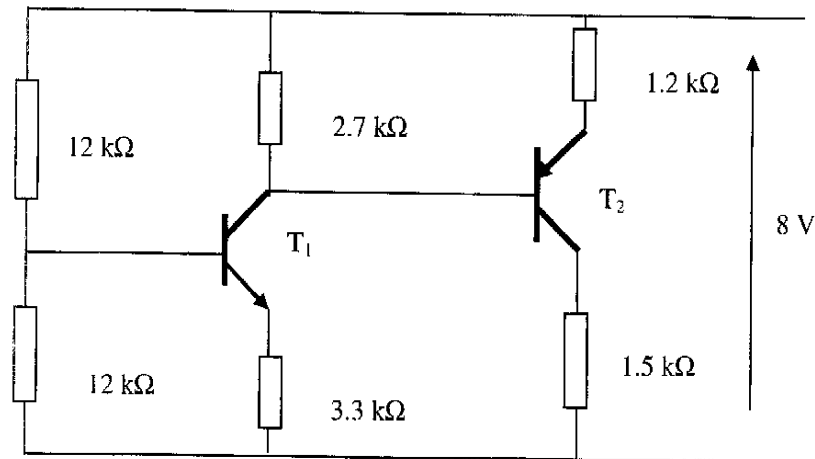

Fig Q3
- (a) the value of the voltage across each element; (6)
- (b) the circuit current; (4)
- (c) the value to which the linear resistance must be changed to give equal voltages across the two elements; (4)
- (d) the circuit current for the condition in Q2(c). (2)
3. In the two stage voltage amplifier shown in Fig Q3 both the npn and pnp transistors have high current gains. Transistor  $T_1$  has a base-emitter volt drop of 0.7 V and transistor  $T_2$  has a base-emitter volt drop of 0.3 V.